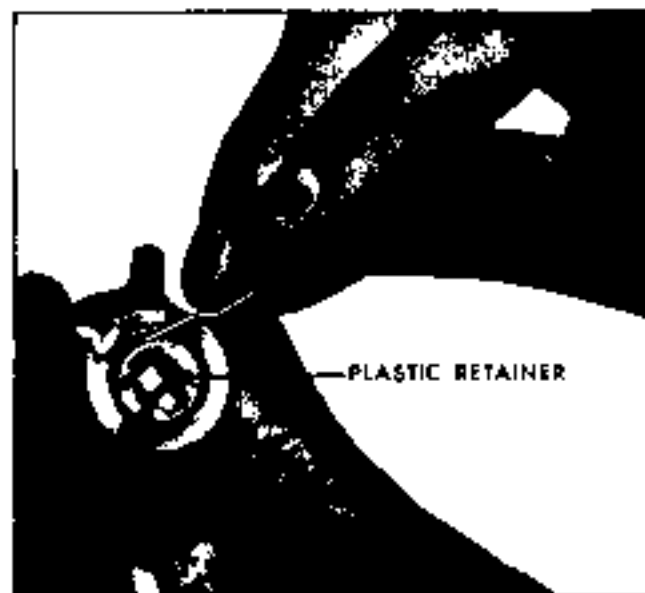

Fig. 0-11 Removing Lock from Cylinder
5. Pull key out of lock assembly approximately two (2) teeth and, using suitable pick, slide or shake plastic retainer in end of lock toward pin side of cylinder as shown in Fig. 0-11.